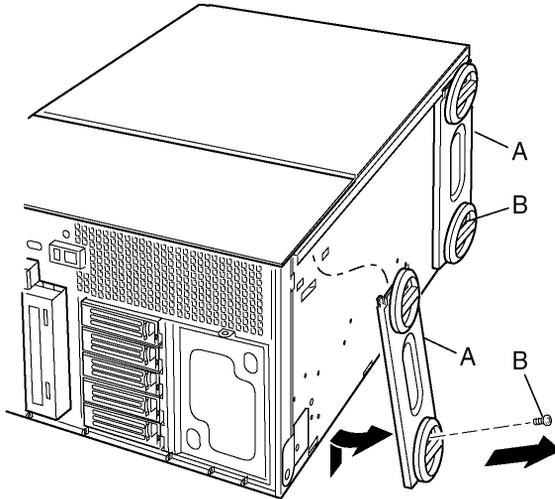

Figure 63 - Removing the feet
- 1 Place the chassis on a workbench so it is lying on its bottom and the feet (Figure 63, A) are on the right.
- 2 Remove the screw (Figure 63, B) that holds the front foot to the chassis, slide the foot upward, then remove the foot.
- 3 Remove the screw (Figure 63, B) that holds the rear foot to the chassis, slide the foot upward, then remove the foot.